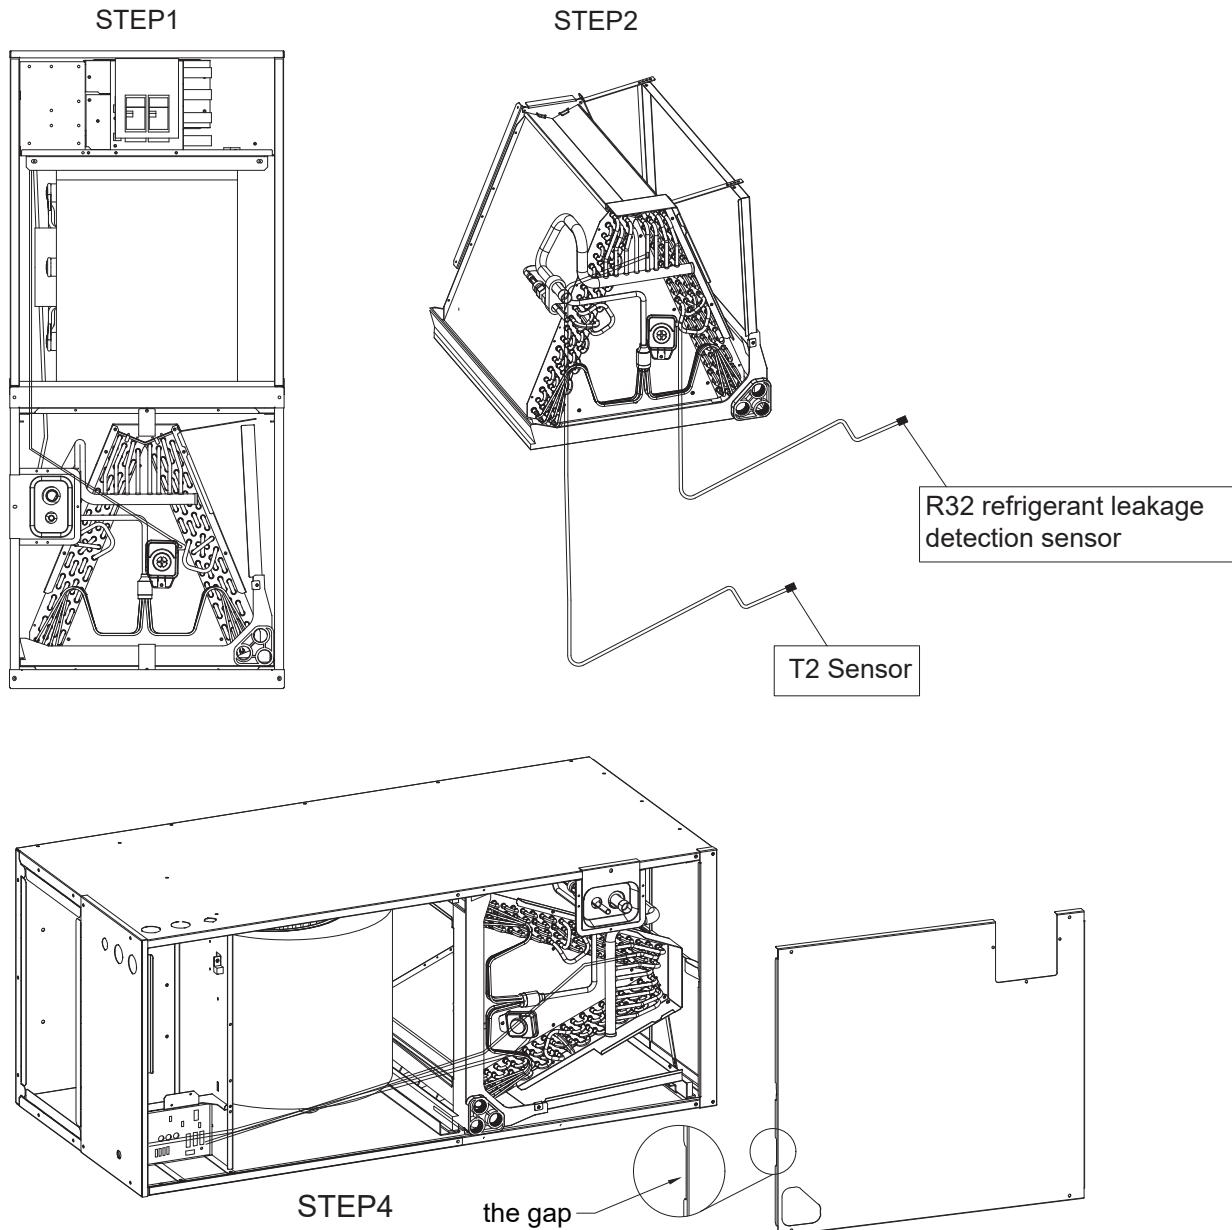

Figure 3.3 Vertical downward and horizontal left application conversion
- By removing the indoor coil assembly and reinstalling the coil, the vertical upflow position can be converted into a horizontal left position, See Figure 3.3 and 3.4.
1. Remove the screws and the front panel, and disconnect the plug of T2 sensor and R32 refrigerant leakage detection sensor wire from the circuit board (Figure 3.3, Step 1).
2. Pull out the coil with sensor wire (do not disconnect T2 sensor and R32 refrigerant leakage detection sensor from the coil). (Figure 3.3, Step 2)
3. Install the coil in the correct direction and fix it in place. Reinsert those sensor wire in PCBA through the gap on the cabinet cover (Figure 3.3, Step 3).